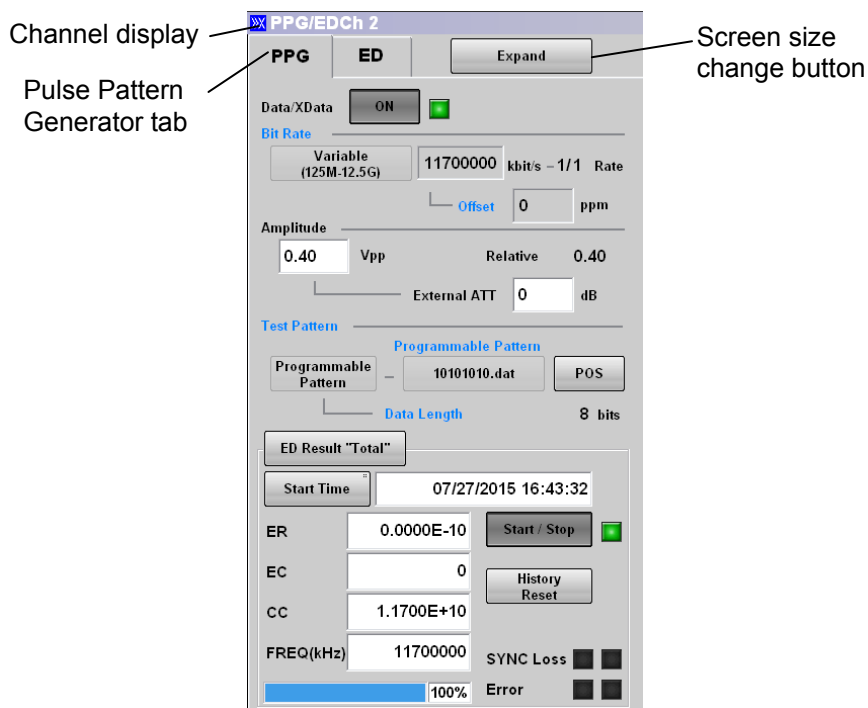

Figure 5.1-1 PPG Setting Panel
2. Touch [PPG], and then Figure 5.1-1 is displayed.
4. Touch [Expand], and then the screen is changed to Figure 5.1-1.
XData in Figure 5.1-1 indicates the Data Out connector on the front panel.